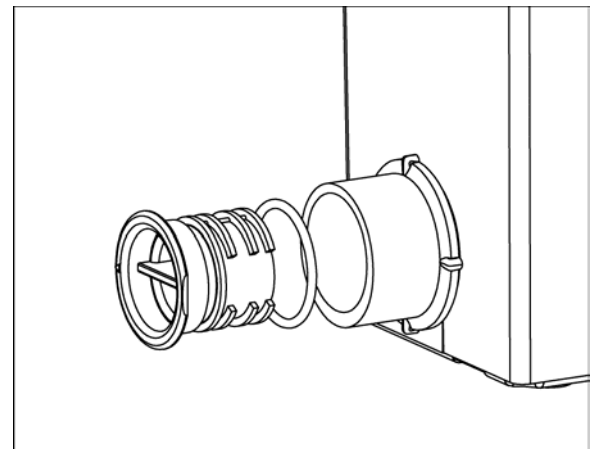

Figure 3
1. Remove the blind cap. (SEE FIG. 3)